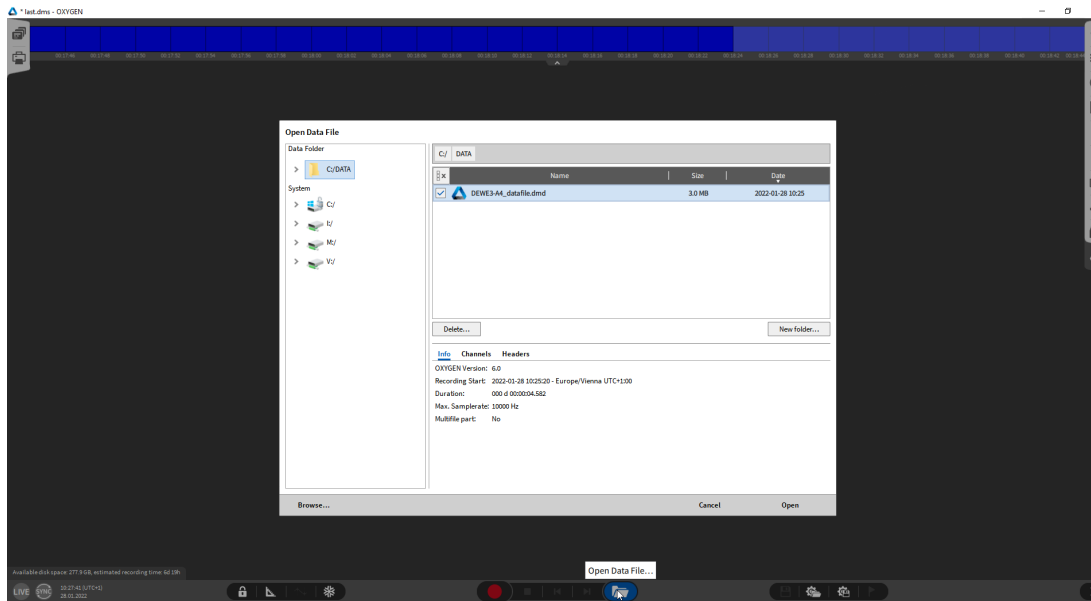

Fig. 25: Opening data file
1. Click on the file button, and select the corresponding file (see Fig. 25).